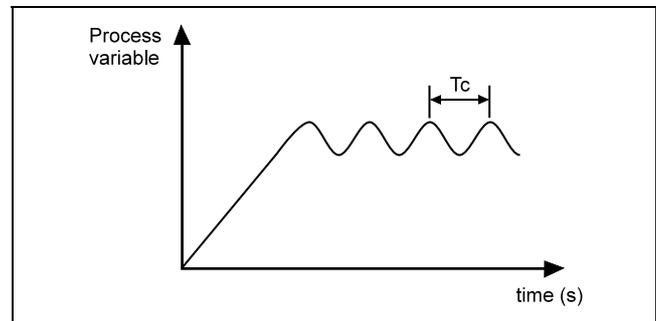

Fig. 5
4. Measure the period duration **Tc** of the oscillation in seconds (see fig. 5).